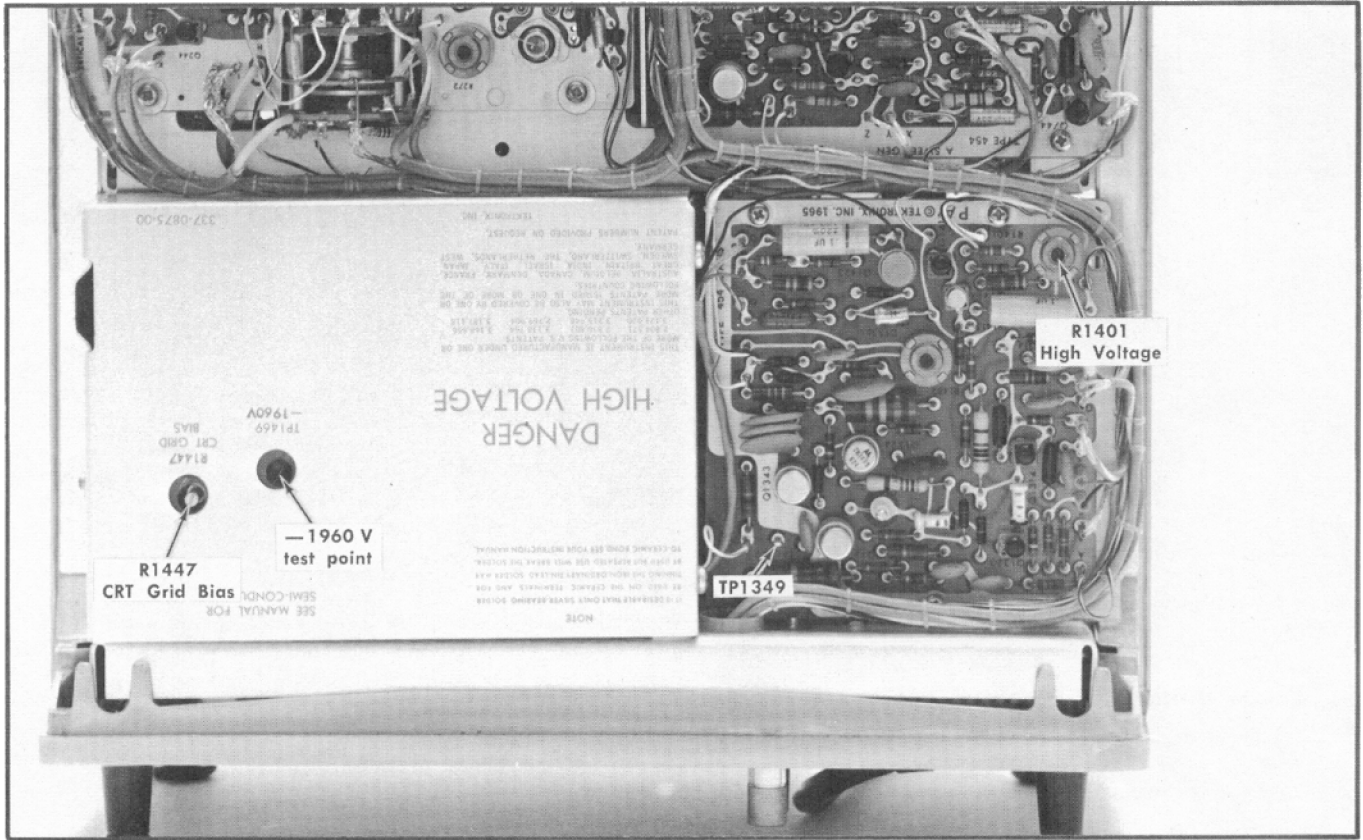

Fig. 6-7. Location of high-voltage adjustments and test points.
- a. Connect the precision DC voltmeter (use the precision 2 kV divider) from the -1960 V test point (see Fig. 6-7) to chassis ground.
- c. ADJUST—High-Voltage adjustment, R1401 (see Fig. 6-7), for -1960 volts.
- a. Connect the precision DC voltmeter from TP1349 (Z Axis Amplifier board; see Fig. 6-7) to chassis ground.
- d. ADJUST—CRT Grid Bias adjustment, R1447 (see Fig. 6-7), so the spot on the CRT just disappears (it may be necessary to turn the horizontal POSITION control clockwise to bring the spot onto the viewing area).